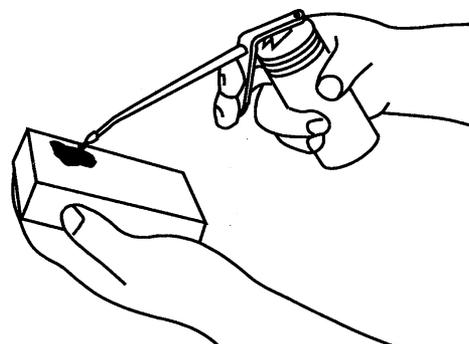

Figure 20
6. Apply one tablespoon of SAE 30W oil to the air filter (Fig. 20).